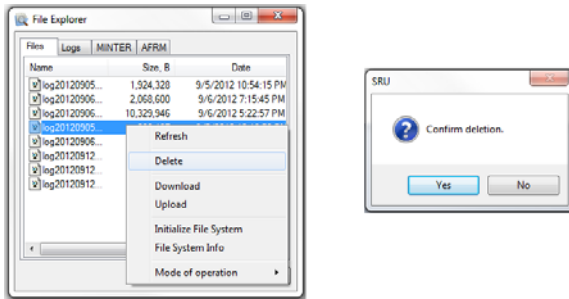

Figure 5-4. Deletion of a File
3. On the *SRU* confirmation screen, press **Yes** to confirm the deletion (Figure 5-4 on page 5-4).